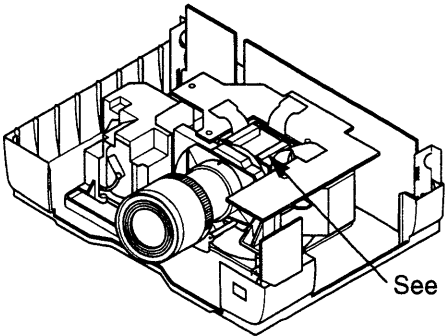

Fig.4 - 1
- ① Apply heat-running for 10 minutes or more before adjustment.
- ② Input a cross-hatch signal to the RGB input terminal with a timing signal of SVGA VESA (60).
- ③ Project about a 40" size image and adjust H.PHASE so that the vertical lines of cross-hatch pattern are seen most clear.
- ④ Loosen 2 screws ㉓ of both the R and B panel's metal fittings. (See Figs.4 - 1 and 4 - 2.)